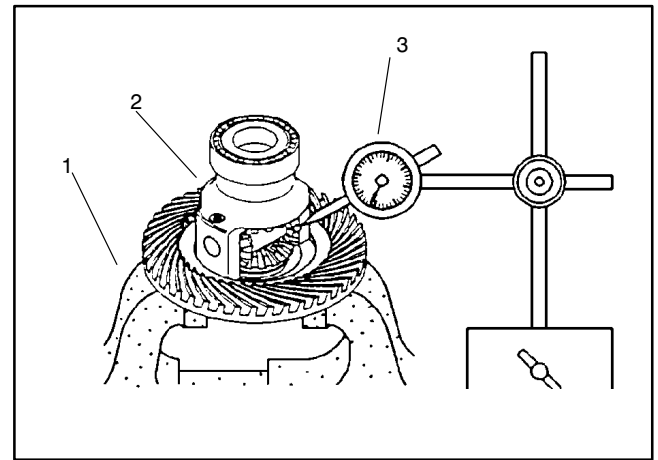

Figure 25
5. Secure the differential case in a vise. Position a dial indicator at the tooth center and measure the differential pinion gear to side gear backlash (Fig. 25).